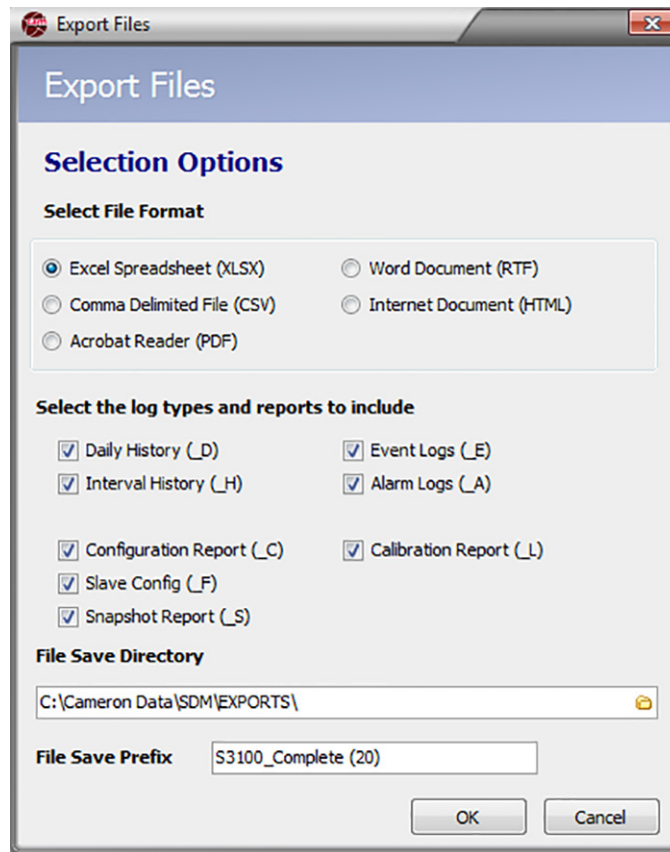

Figure 3.3—Export Files dialog
- Select the desired file format, log types and reports from the options (Figure 3.3, page 34).
3. Note the filepath (Figure 3.3) and change if necessary. By default, export files are saved to the “C:\Cameron Data\SDM\Exports” directory on the user’s hard drive.
2. Click on the **Email Data** button in the left column of the screen and click the appropriate **Email All as...** selection from the dropdown menu (Figure 3.3, page 34).